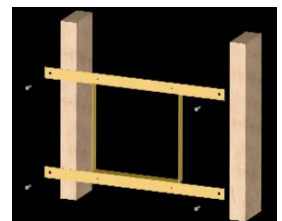

Figure 3
- B. Mount the pre-construction bracket (see **Figure 3**) to the studs with drywall screws, with the inner square HECC mounting flange on the frame pointed in towards the inside of the wall. Keep the bracket level to assure proper appearance when installation is complete.